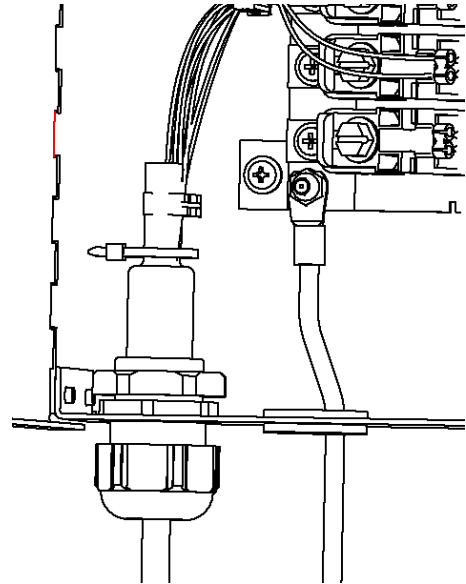

Figure 5
5. Insert GND Wire through bottom grommet and connect to GND stud (Figure 5).